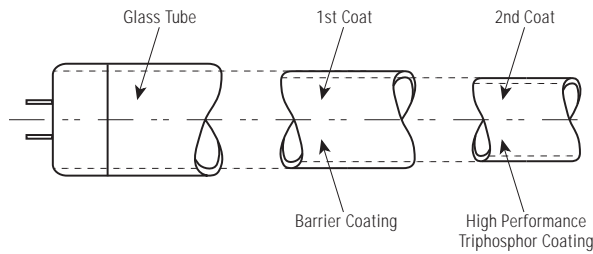

Fig. 1
- lumen depreciation resulting from mercury absorption into the glass is effectively eliminated, through the use of a barrier pre-coat. (See Fig.1 & 2).